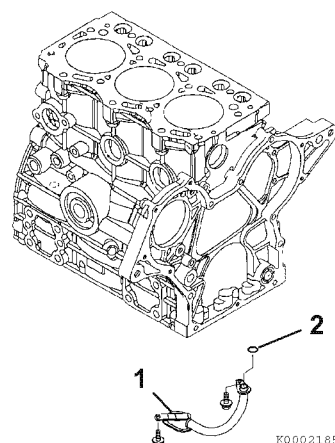

Figure 6-46
4. Remove the oil pickup tube (**Figure 6-46, (1)**) and O-ring (**Figure 6-46, (2)**).